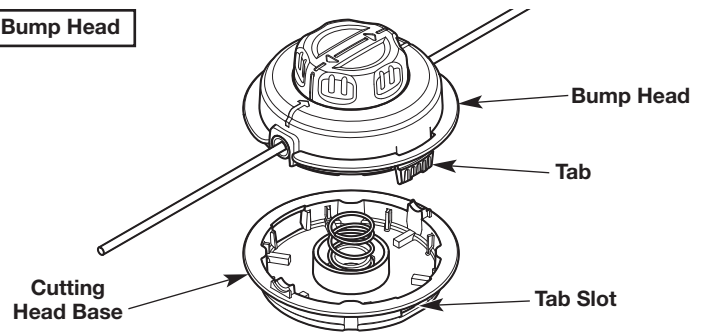

Fig. 7
2. Disconnect the bump head from the cutting head base: Firmly press a tab on the bump head (Fig. 7). Use your thumb. If necessary, use a flat-head screwdriver:
- c. While holding the screwdriver in place, gently twist the screwdriver to unlock the tab from the tab slot (Fig. 7).
3. Align the tabs on the bump head with the tab slots on the cutting head base (Fig. 7). Push the bump head onto the cutting head base until both tabs snap into place.